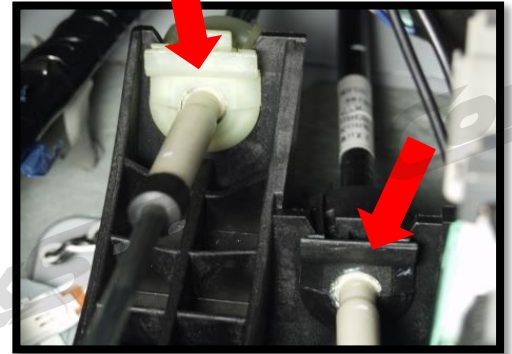

Figure 2d
- f) Re-attach the shifter cables to the housing by pushing them into the slots (as shown in Figure 2d).